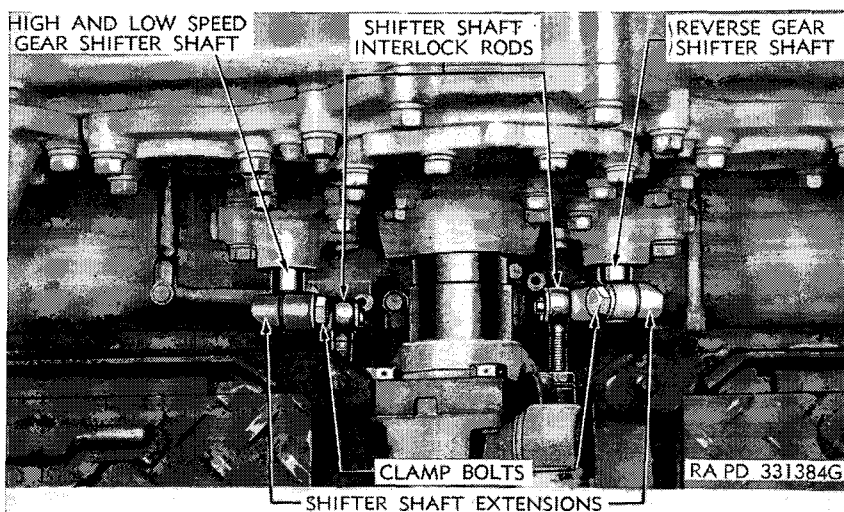

Figure 115. Transfer unit shift linkage.
- (2) *Remove bulkhead extension cover.* Remove eight screws holding bulkhead extension cover. Lift out bulkhead extension cover.
- (3) *Adjust “HIGH” and “LOW” shift rod.* Remove shifter shaft extension clamp bolt that locks extension to shifter shaft (fig. 115). Drive a wedge or small chisel in slot in extension until extension is free on shaft. Move hand lever toward “HIGH” position until shifter shaft extension slides off shifter shaft. Remove cotter pin and washer holding shift rod to shifter shaft extension. Loosen lock nut on shift rod and turn clevis in or out a sufficient amount so that, when the shifter shaft extension is assembled on the shifter shaft, the shift lever will be in the center of the gate in the quadrant. When adjustment is correct, install cotter pin and washer holding shift rod to shifter shaft extension and install clamp bolt holding shifter shaft extension to shifter shaft.
- (4) *Adjust reverse shift rod.* After “HIGH” and “LOW” shift rod has been adjusted, adjust “REVERSE” shift rod in same